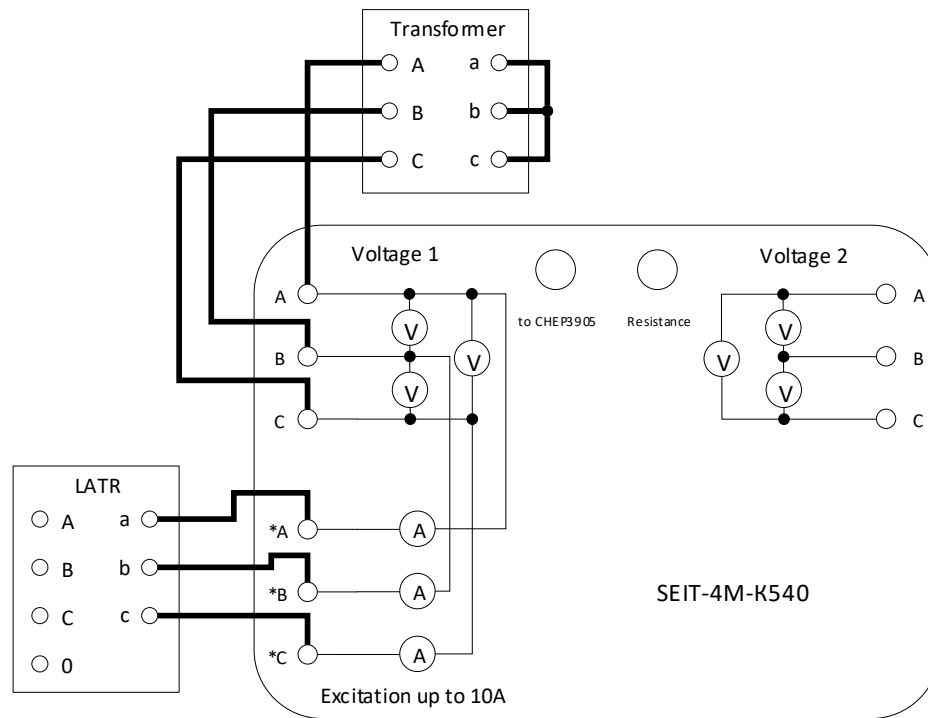

Fig. 18. Connection Circuit for Short Circuit Test
5.4.1. To perform a short-circuit test, assemble the measuring circuit shown in Fig.18. Close the LV winding inputs of the transformer tested onto fault and connect the HV winding inputs to the MCU terminals, as shown in Fig.18.